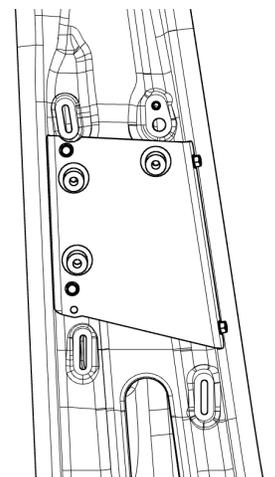

Figure 2
- Verify that the B-pillar bracket is located correctly by checking that the notch on the top of the bracket is well-fit around one of the embossed areas for an upper B-pillar trim clip (Fig 2).
- Secure the B-pillar bracket in place with a 3/8" socket and (4) [3X162] self drilling screws. The holes can be pre-drilled with a 3/16" drill bit if necessary.